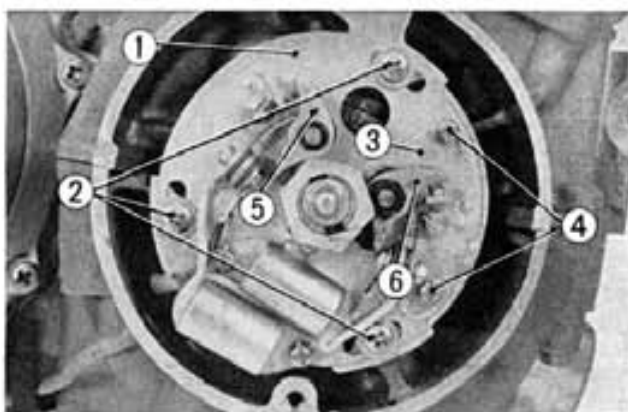

Fig. 7-20 ① Contact breaker base plate
- c. Loosen the three base plate setting screws (2) (Fig. 7-20) and carefully rotate the base plate until the continuity light flickers. Tighten base plate setting screws. Rotating the base